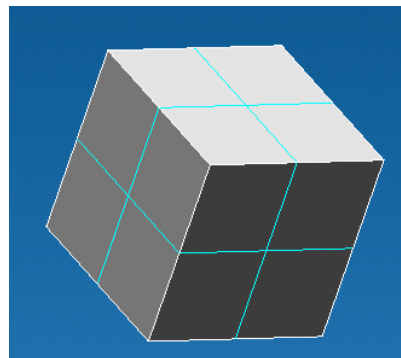

Fig. 1.4 A surface model on the basis of which a 3d sketch will be made
**3D sketch** is a three-dimensional area intended for creation of spatial curves. A basis of 3d sketch is the three-dimensional model (Fig. 1.4).